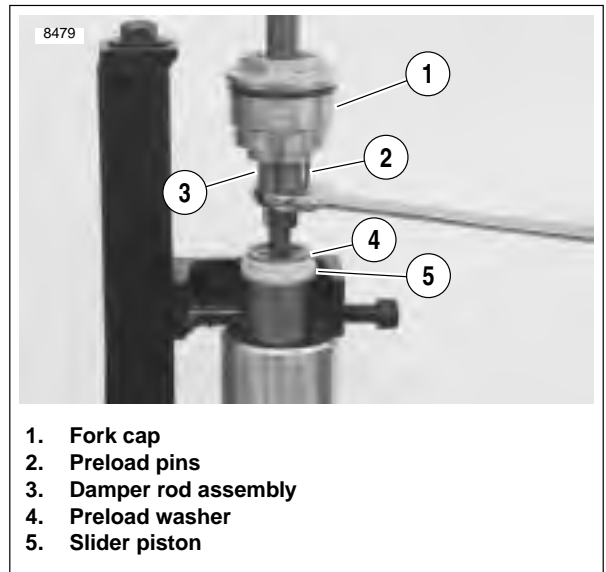

Figure 2-70. Holding Damper Rod Assembly
- See Figure 2-70. Hold damper rod assembly (3) and remove fork cap (1).
20. See Figure 2-70. Install preload washer (4) and slider piston (5).
See Figure 2-70. Careful not to damage preload pins (2) while holding damper rod assembly (3).